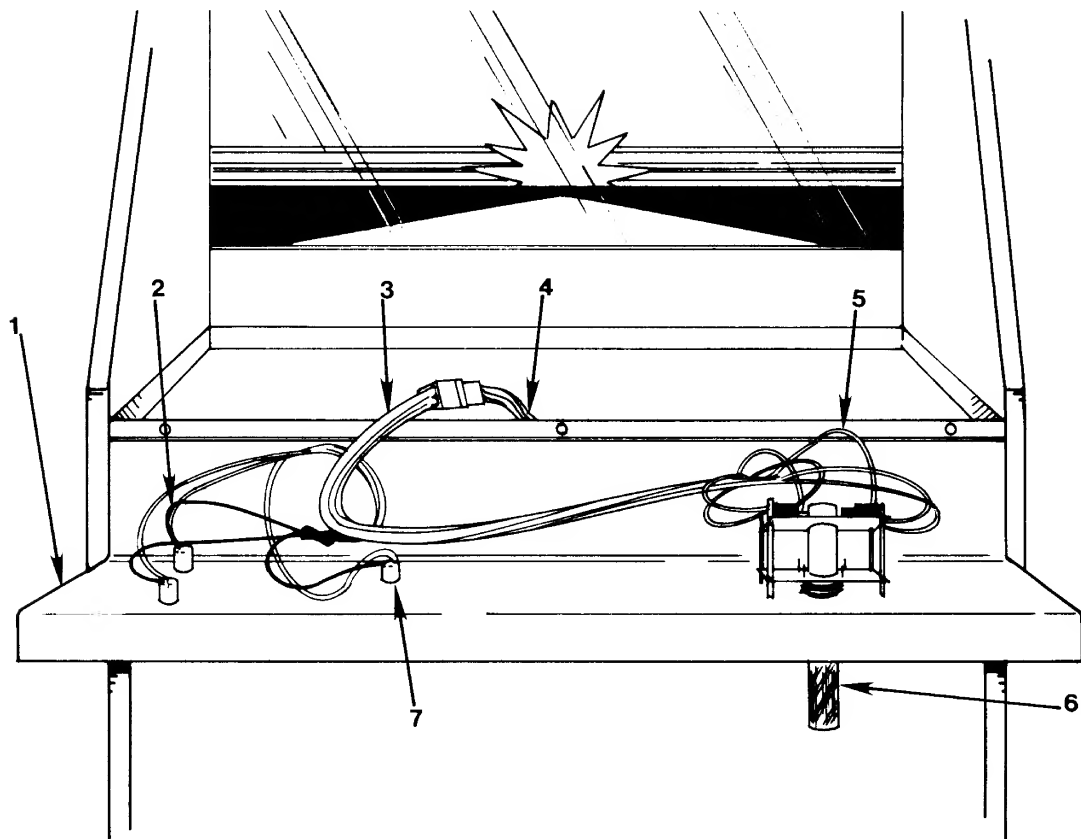

Figure 5: Control Panel (Late Production)
Control Panels (see Figure 5)
5. From the front of the cabinet, pull the control panel out and down; let it rest on the open coin door (see Figure 5).